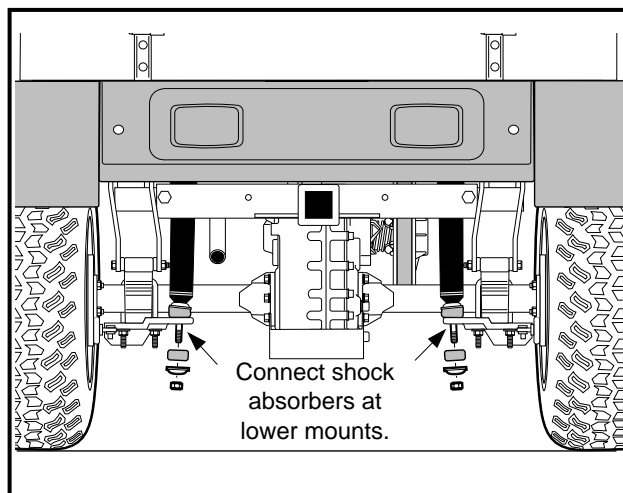

Figure 16-92 Shock Absorber
19. Position shocks in the shock mounts and install cushions, mounting washers, and nuts (**Figure 16-92, Page 16-38**). Tighten nuts until cushions expand to be the same diameter as the mounting washers.